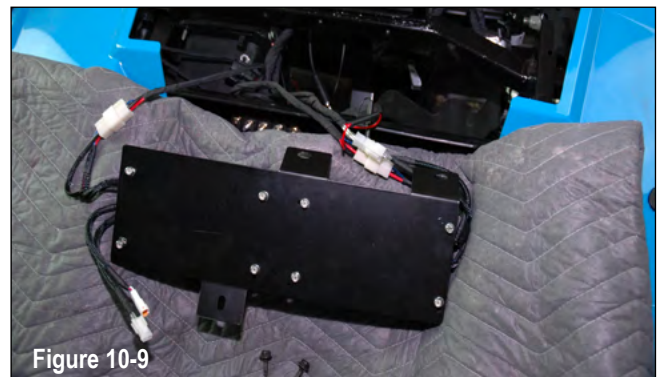

Figure 10-9
- **If you have the Dynamix® ECU and/or OEM amplifier bracket** - Remove the first two (2) 10mm bolts. Remove the dual amp plate and flip it over on a towel or blanket to avoid scratching the amplifier(s) heatsink as shown in Figure 10-9. Next, remove the remaining two (2) 10mm bolts from the ECU or OEM amplifier mount (if present) and place the ECU to the side as when initially disassembled on page 8.
- **If NO Dynamix® ECU or OEM amplifier bracket** - Remove the (2) T40 metal screws for the amp plate. Remove the dual amp plate and flip it over on a towel or blanket to avoid scratching the amplifier(s) heatsink as shown in Figure 10-9.